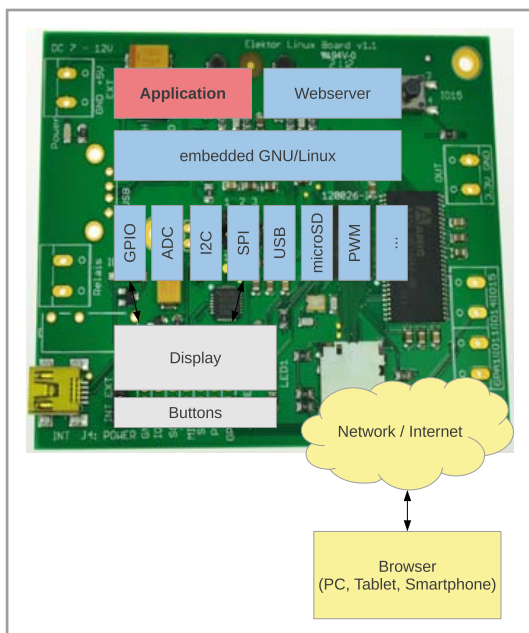

Figure 1.
**Figure 1** shows a typical scenario. In the middle we have the Linux system running the custom application and a web server to allow control from a wide range of devices using a browser. We can also add a display and a couple of buttons, the display being controlled using a separate program. The main application program is just an ordinary process, running in the background among many others. Such a program is known in the Linux world as a ‘daemon’ or ‘service’. Once a daemon has been started it continues to oper-